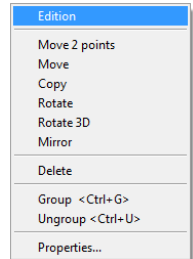

Fig. 162 – context menu
- select the **Edit** button (Fig. 162);